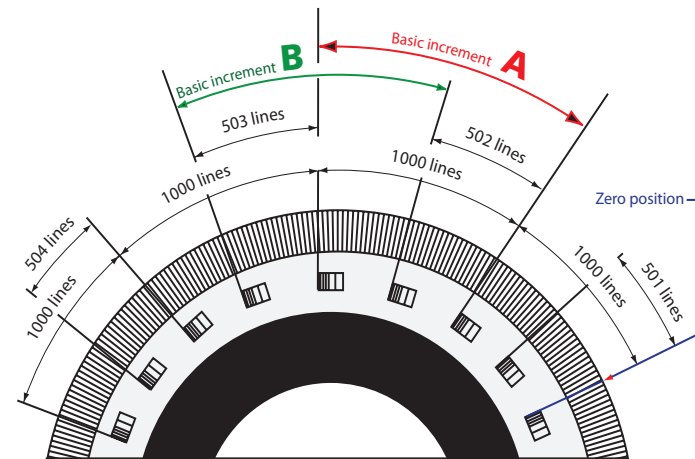

Figure 1.3 Schematic view of circular graduations with distance-coded reference marks.
**Rotary encoder (figure 1.3):**